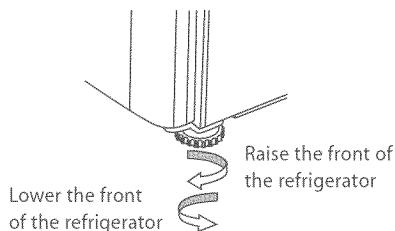

Fig.10 Refrigerator feet
- C Adjust the front feet down until the refrigerator is leaning backward with the front approximately $\frac{3}{8}$ " (10 mm) higher than the back. This will ensure a good door closing action. (Refer to Fig.10).